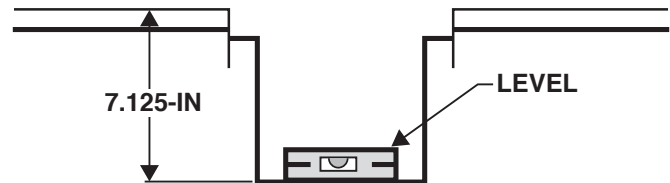

Figure 10C: U Shaped Box Depth Dimension
- Mount fabricated box so the bottom inside of the box is 7" below floor opening. **Note:** installing units before finish floor is installed, subtract floor thickness from 7" for mounting depth. Example: 7" mounting depth minus floor thickness .75" equals new mounting depth. See figure 10C.
- Use a level to verify the fabricated box is installed properly. See figure 10C.